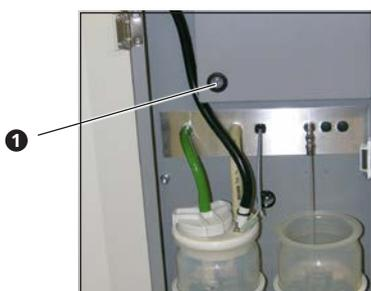

Fig. 23.
- The ear irrigation system is supplied with water from a heated storage canister (37°C) 4.5 l (③, fig. 22). This canister can easily be filled, cleaned or disinfected. The pump only switches on automatically when required. Water pressure and flow quantity may be regulated with the release lever on the irrigation handle. With the switch ①, fig 23, the ear irrigation system can be switched on and off.